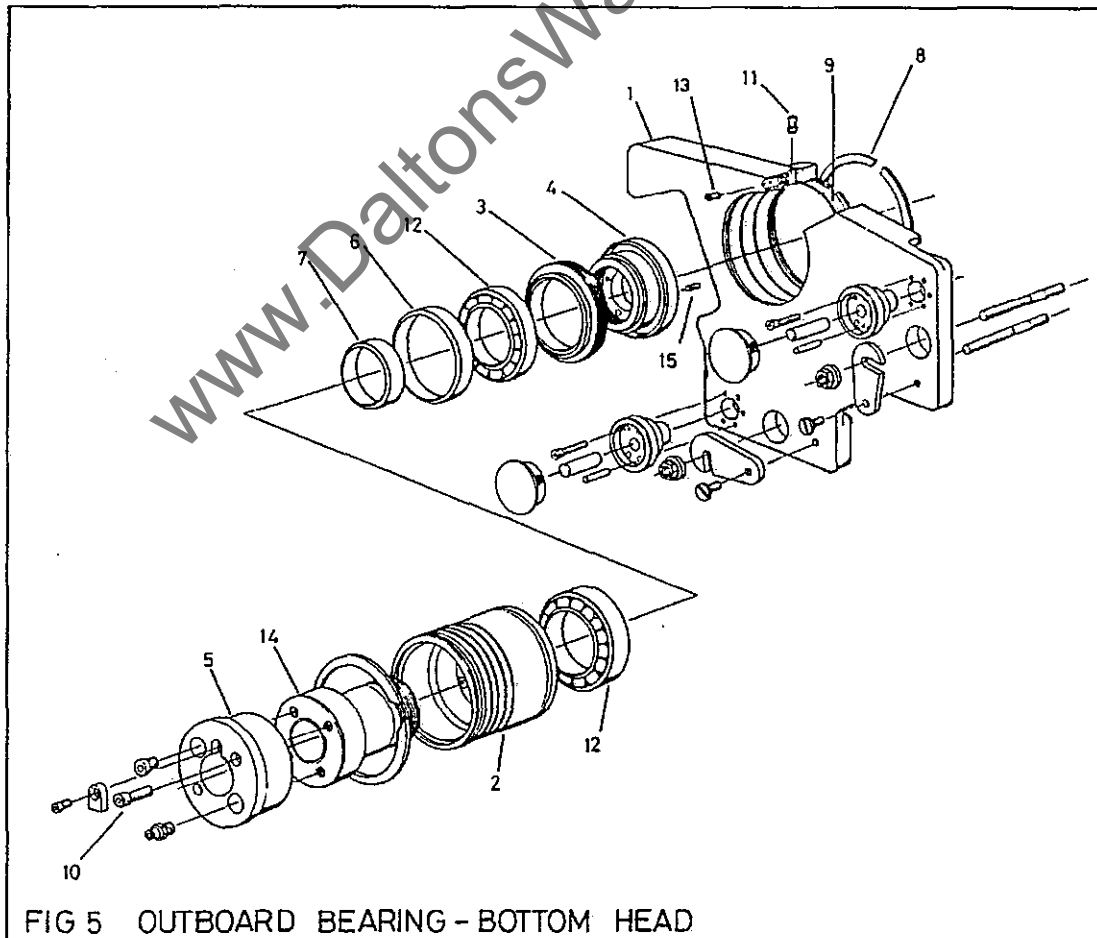

FIG 5 OUTBOARD BEARING - BOTTOM HEAD
### Outboard Bearing Change for Top and Bottom Heads (Fig 4, Fig 5)
**Outboard Bearing Housing Removal - Top and Bottom Heads (Fig 4, Fig 5)**
- 2) Remove grub screw (13), remove anti rotation pin (11). Remove the external circlip (8) from the rear of the housing, this will allow the housing assembly to be removed from the front of the machine. Care must be taken not to damage the housing assembly (2) or the mounting plate (1).
- 3) If the housing has been subject to excessive heat, the bearing tape (9) may have shrunk. Depending on the shrinkage it may need to be replaced or just shimed out. When fitting new bearing tape the edges should be 'feathered' at the joint.
- 4) To refit the housing reverse the previous steps. Re-assembly will be aided by smearing the bore of the housing plate (1) with oil.
**Note:** Care must be taken when re-assembly not to damage the tape strip (9) in the housing plate (1).